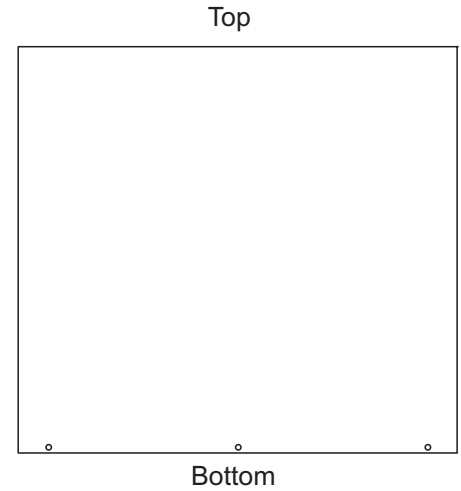

Figure 1
1. Align top edge of backsplash with underside of hood. Allow maximum of 1/8"(3) clearance between the bottom edge of the hood and the top of the backsplash.
3. Make sure backsplash is level with the Wolf Hood before installing screws along bottom edge of backsplash (See Figure 1).
IMPORTANT NOTE: It may be necessary to pull Wolf Cooking appliance away from the wall to complete installation of backsplash bottom screws. As shown in figure 1.